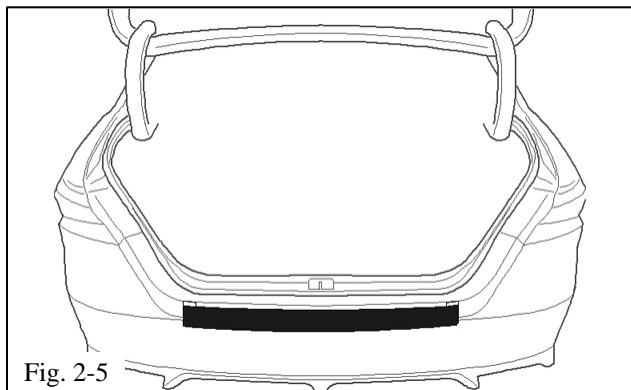

Fig. 2-5
(e) Repeat step 2(b) for the left side of the bumper applique making sure sections (4) and (5) remain in alignment with the fascia edge. (Fig. 2-5).